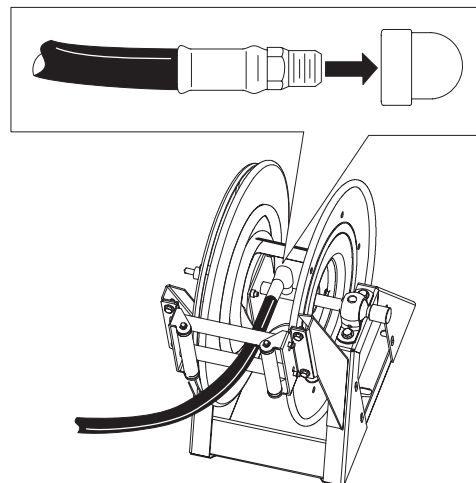

Figure 29
1. Wrap Teflon tape counterclockwise around the threads of the hose fitting on the long hose and install the fitting into the connecting tube on the reel (Fig. 29).